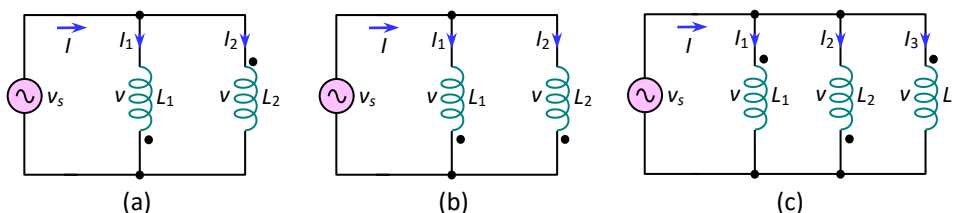

Fig.1-145: Parallel connected inductors
15. Find the equivalent inductance of the circuit of Fig.1-145. Assume,  $L_1 = 1.5\text{ H}$ ,  $L_2 = 2.2\text{ H}$ ,  $L_3 = 5.5\text{ H}$ ,  $M_{12} = 1.2\text{ H}$ ,  $M_{23} = 1\text{ H}$ , and  $M_{13} = 0.75\text{ H}$ .
16. The values of two mutually coupled inductors are  $L_1 = 3\text{ H}$ ,  $L_2 = 6\text{ H}$ . If they are connected like i) Fig.1-145(a) and ii) Fig.1-145(b) determine the equivalent inductance. Assume,  $M_{12} = 2.5\text{ H}$ .